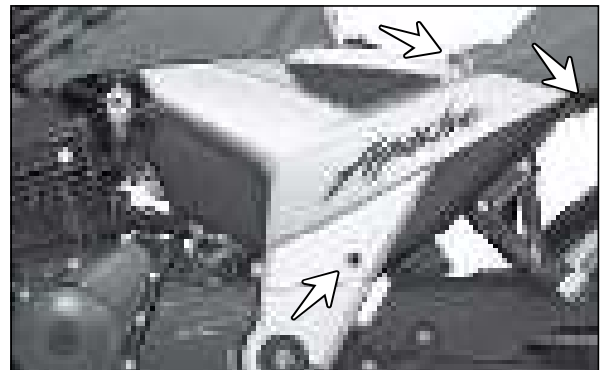

Fig. 2.3
- Remove the CRR pan head screw (M6x16 - 3 Nos.) from the cover frame L. (Fig. 2.3)